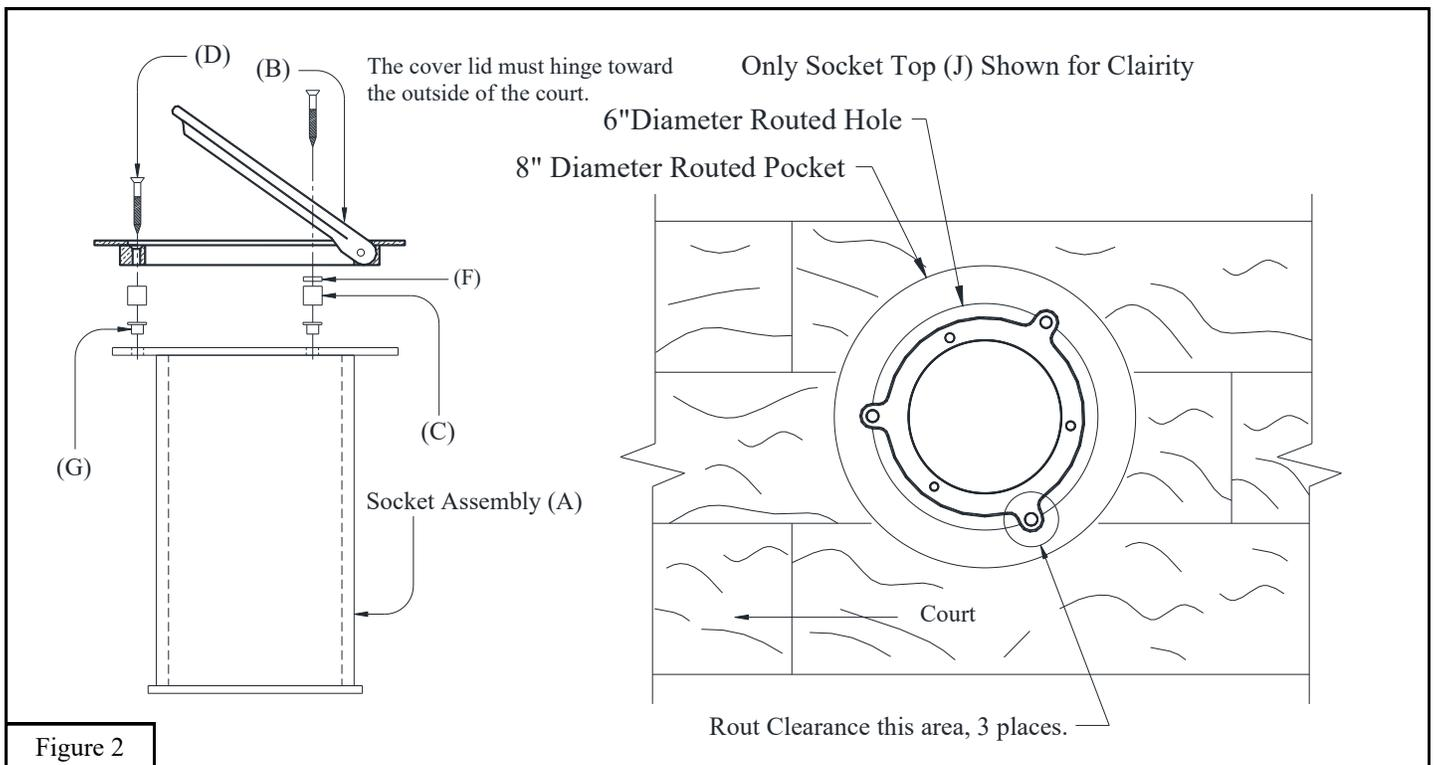

Figure 2
9. Attach the *Hinged Floor Plate (B)* to the *Socket Assembly (A)* using the #10 X 1 3/4" Flat Head Phillips Wood Screws (D), Spacers (F), Nylon Standoffs (C) and #10 Plastic Tubular Nut (G) provided. Make sure to install Spacers (F) in the two hole locations that are directly below the hinge on the *Hinged Floor Plate (B)*. See Fig 2.
10. Place entire assembly into hole so that when the lid is opened it is on the outside of the court. Trace around the protruding tabs on the socket top in the routed hole then carefully rout clearance in all three areas. See Fig 2.